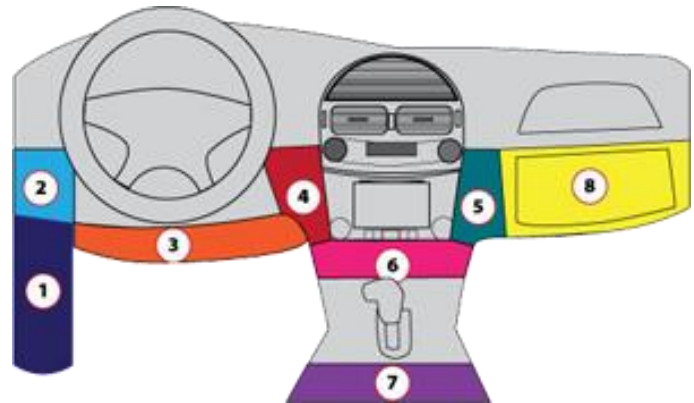

Fig. 4
*The vehicle trim will need to be removed as required to locate the vehicle's OBD connector demonstrated (**Fig. 4**).*